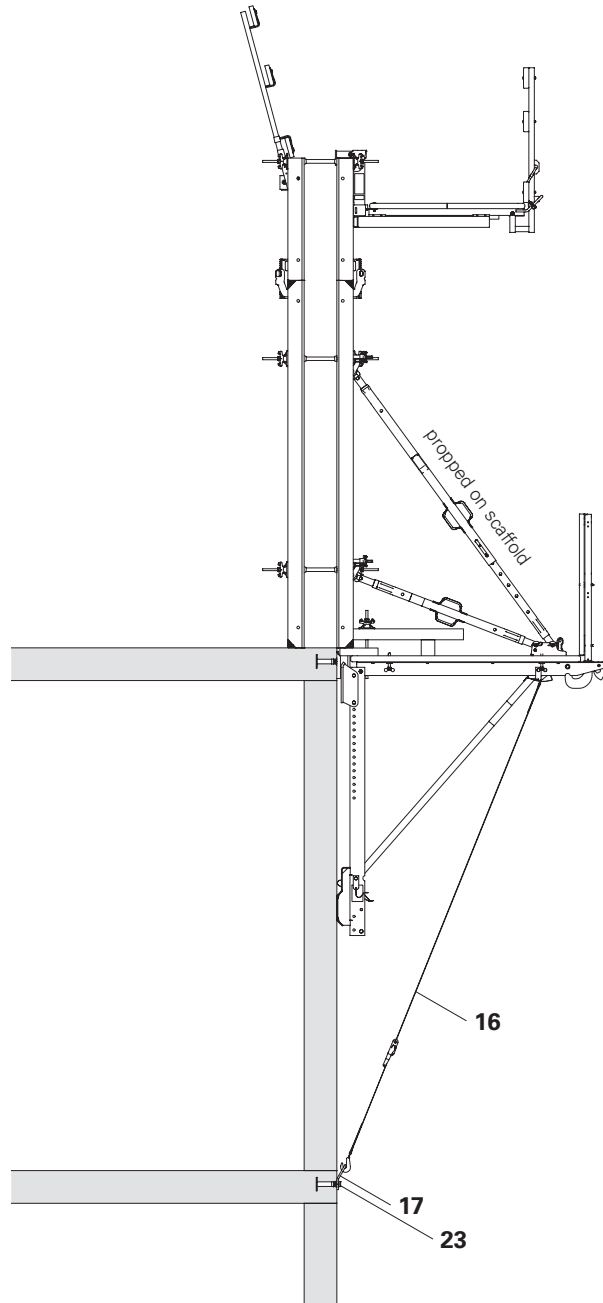

Fig. B2.04
1. Fix belt connector wall (17) with Bolt M24 x 70 (23) to the anchoring of the slab below.
2. Hook the tension belt (16) into the belt connector and tension it. (Fig. B2.04)